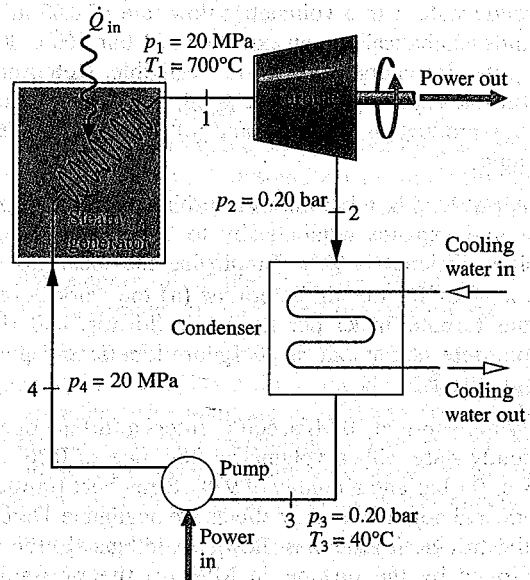

Fig. P6.135
6.135 Figure P6.135 shows a simple vapor power cycle operating at steady state with water as the working fluid. Data at key locations are given on the figure. Flow through the turbine and pump occurs isentropically. Flow through the steam generator and condenser occurs at constant pressure. Stray heat transfer and kinetic and potential energy effects are negligible. Sketch the four processes of this cycle in series on a T - s diagram. Determine the thermal efficiency.